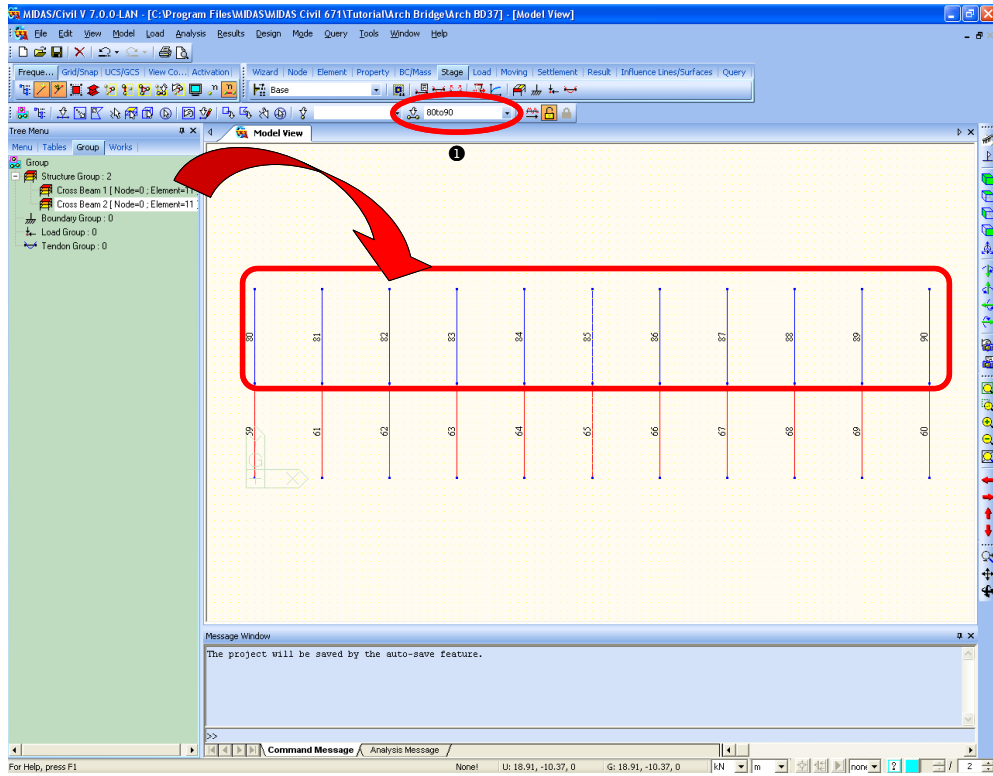

Figure 4.19 Cross Beam Group
13. Type “**80 to 90**” in the element selection window (Figure 4.19①) and press [Enter].